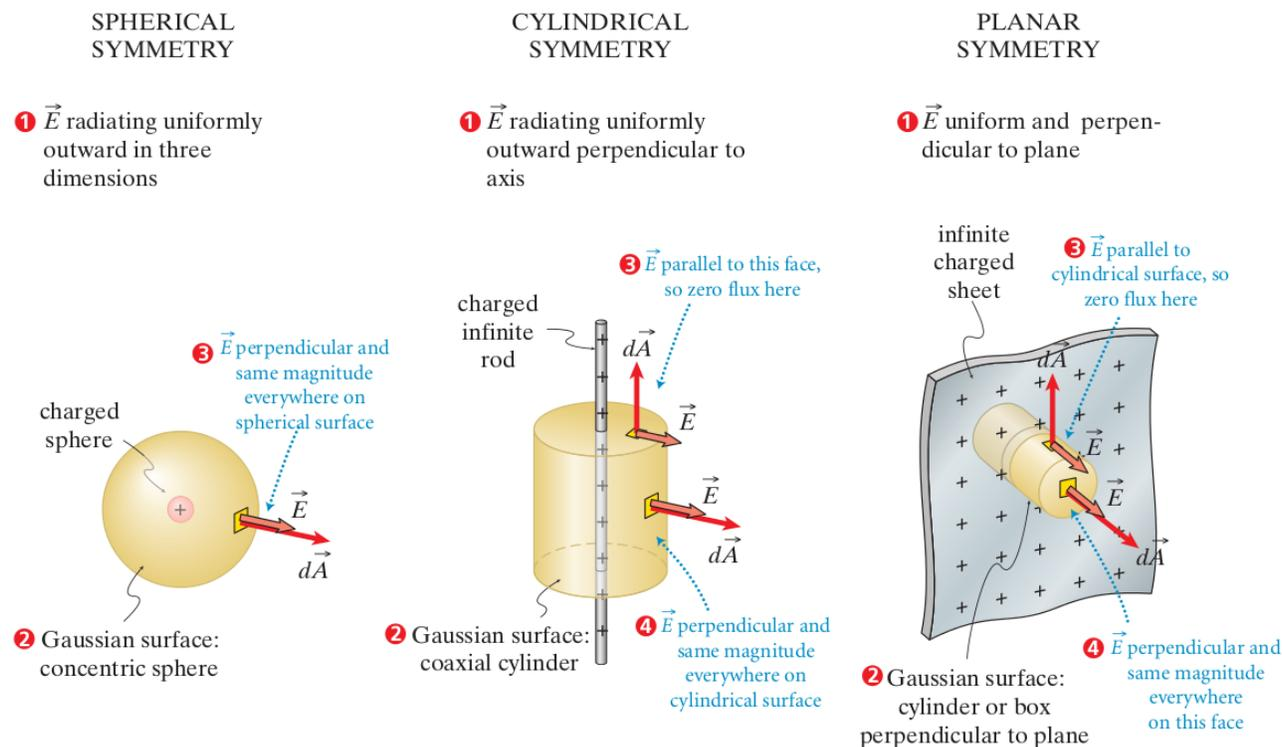

Figure 24.27 Applying Gauss's law to determine the electric fields of charge distributions exhibiting spherical, cylindrical, or planar symmetry.
1. Identify the symmetry of the charge distribution. This symmetry determines the general pattern of the electric field and the type of Gaussian surface you should use (Figure 24.27)
You can use the same general approach to determine the charge carried by a charge distribution given the electric field of a charge distribution exhibiting one of the three symmetries in Figure 24.27. Follow the same procedure, but in Steps 4–6, express q_{enc} in terms of the unknown charge q and solve for q .